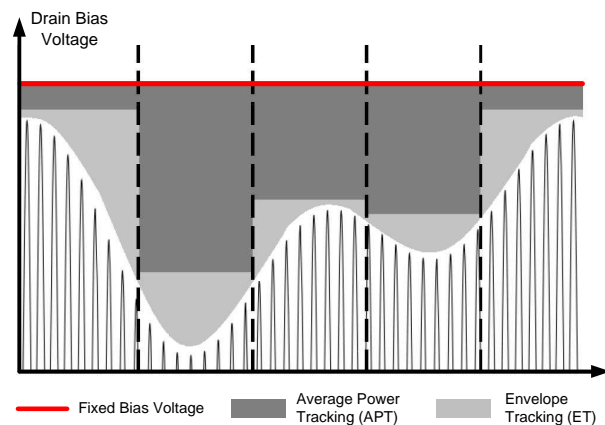

Figure 1. PA drain bias voltage modulation
The signals in modern wireless communication systems have high peak-to-average power ratios (PAPR). Techniques such as average power tracking (APT) and envelope tracking (ET) increase the power efficiency of a PA in a base-station application, as depicted in Figure 1.